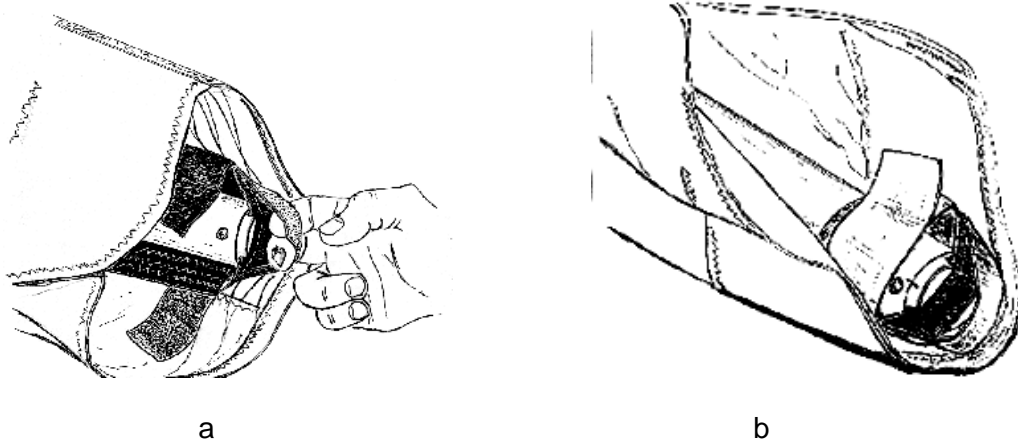

Fig. 4
2.1.6. Tighten the sail along the leading edge and mount it to the rear leading edge, make sure to align the sail mount webbing squarely in the slot and attach the securing velcros (Fig. 4). The sail is mounted to the leading edge by the inner (forward) of the two loops of webbing. The outer loop is a pull handle only.